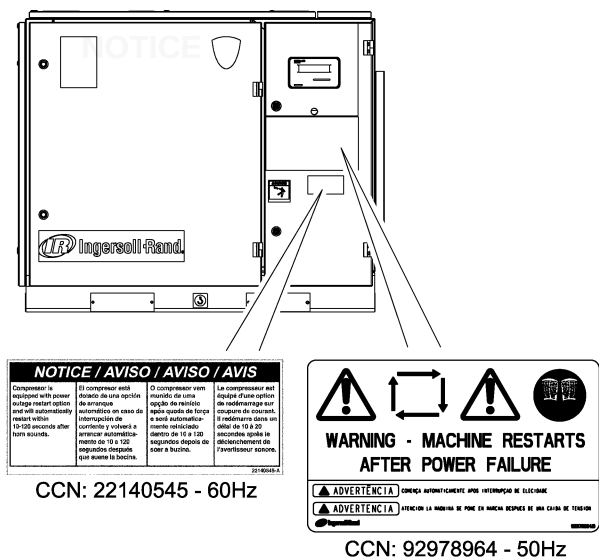

FIGURE 2.0-3 STARTER ENCLOSURE DOOR (WITH DECAL)
13. Install the corresponding decal for PORO option on the front of the starter enclosure door as shown in Figure 2.0-3.